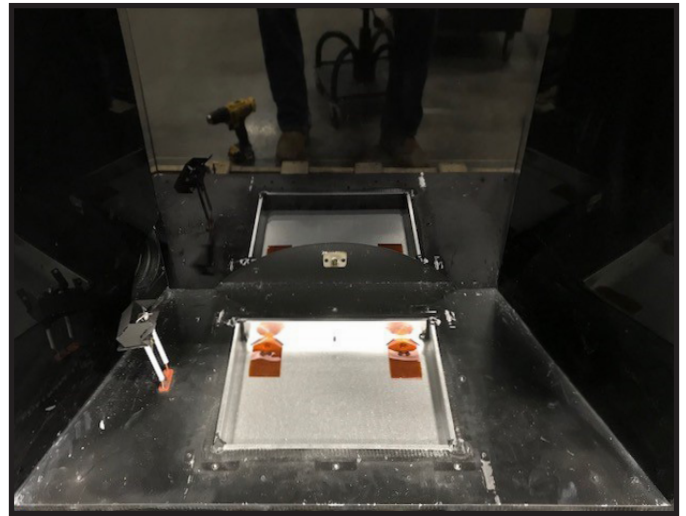

Figure 12 Glass Assembly removed from bottom inside firebox, exposing LED Tub Assembly
12. Remove the Glass Assembly from the appliance and set it someplace where it will not be damaged. See Figure 12.